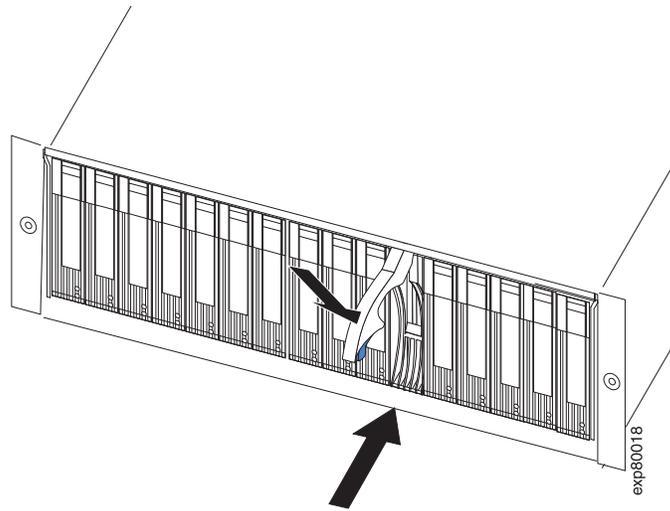

Figure 21. Replacing an EV-DDM
1. Lift up on the handle and gently push the EV-DDM CRU into the empty bay until the hinge of the tray handle latches beneath the storage subsystem bezel, as show in Figure 21.